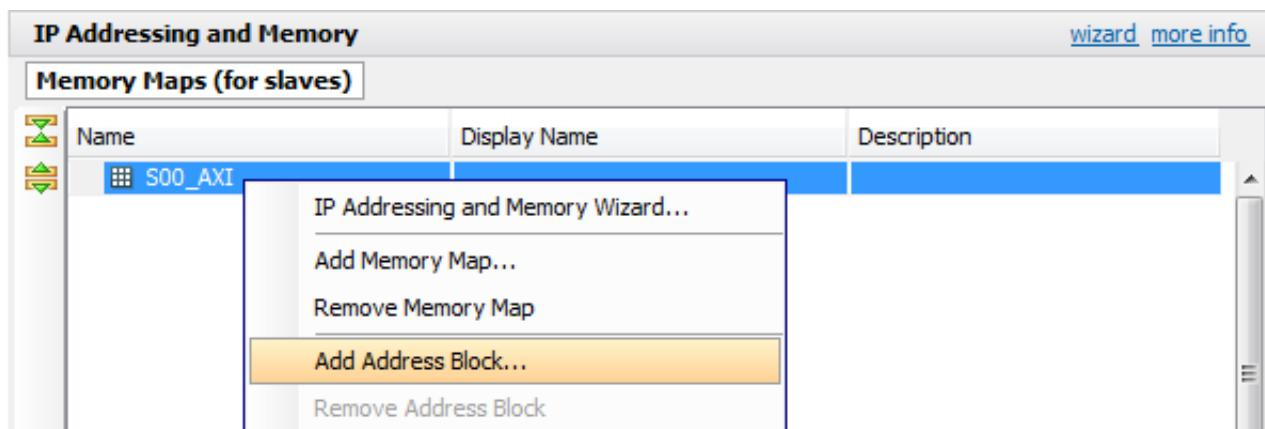

Figure 8-80: Add Address Block Option
- Right-click the selected memory-map and click **Add Address Block** (Figure 8-80).